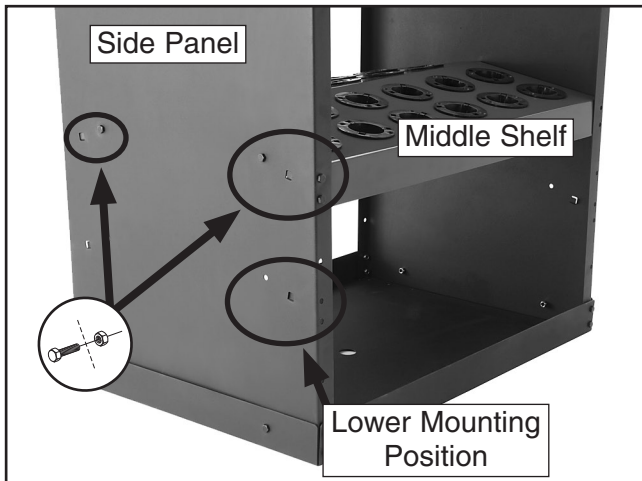

Figure 7. Middle shelf installed onto the side panels.
- Slide the middle shelf onto the mounting flanges of the side panels and secure it in place with 12 hex bolts and lock nuts, as shown in **Figure 7**.